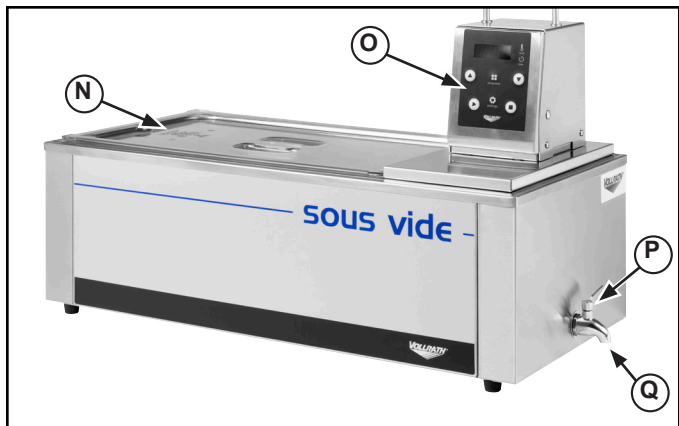

Figure 3. Cover, Drain, and Drain Lever (shown in the “Open” Position).
3. Place a suitable container directly under the drain valve (P). See Figure 3. Turn the drain valve lever (P) to the open position monitoring the flow of liquid going into the container. Use caution to avoid spills that may create a slippery condition. Turn drain valve lever (P) to the closed position before the container is full. Dispose of the drained water. This procedure may need to be repeated.